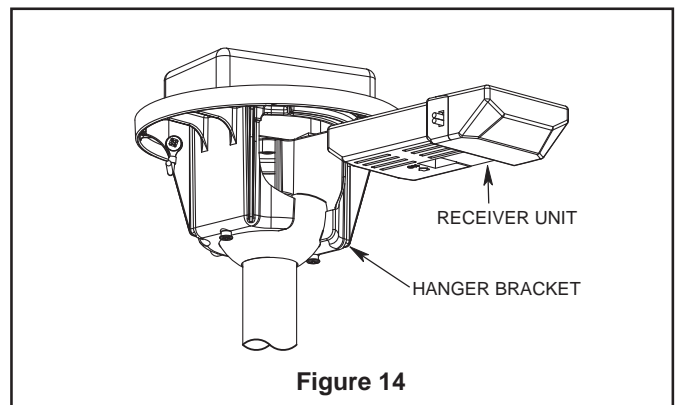

Figure 14
3. Slide the receiver unit into the open end of the hanger bracket (Figure 14).